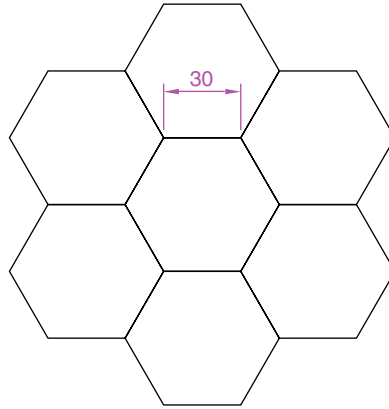

Fig. 3.38 Exercise 7
7. Fig. 3.38 shows seven hexagons with edges touching. Construct the inner hexagon using the **Polygon** tool, then with the aid of the **Edge** prompt of the tool, add the other six hexagons.